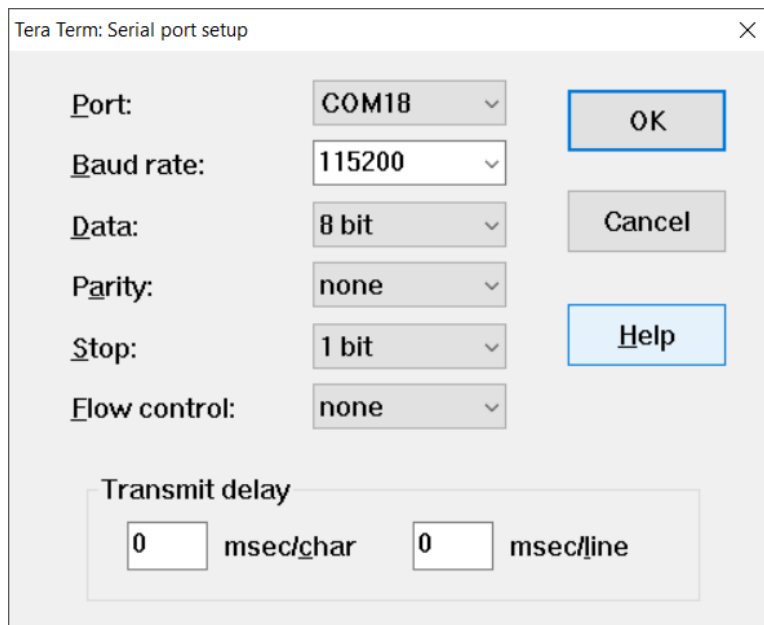

Figure 16. Configure Serial Port
3. Expand Setup menu and click over Serial Port. Make sure to configure the settings as in Figure 16.